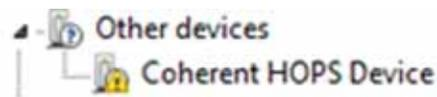

Figure 4-10. Update Driver Software
4. Find the **Coherent HOPS Device** in the **Device Manager**. It will show an exclamation mark. Right click on **Coherent HOPS Device** and select **Update Driver Software** (see Figure 4-10).